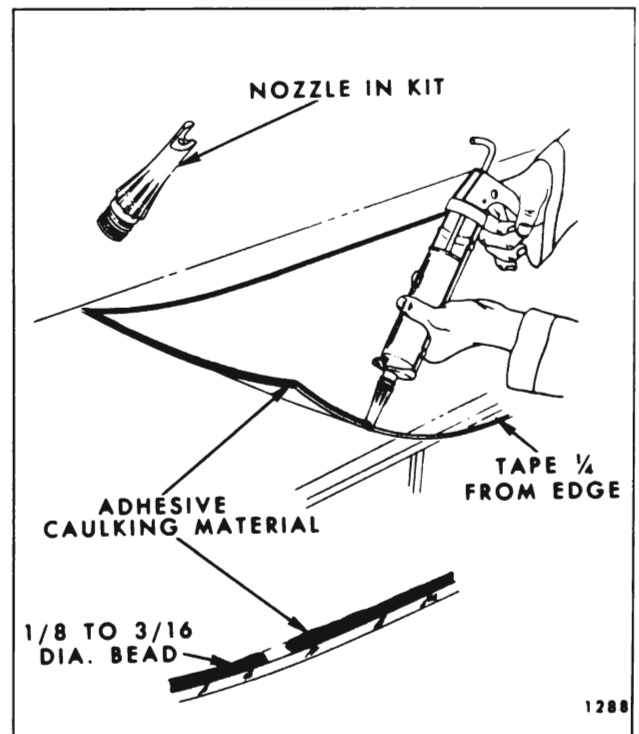

Fig. 4-7 — Adhesive Caulking Material Application - Short Method
9. Apply a smooth continuous bead of adhesive caulking material to inside surface of glass next to edge completely around glass (Fig. 4-7). Material should be $1/8$ " to $3/16$ " in diameter.